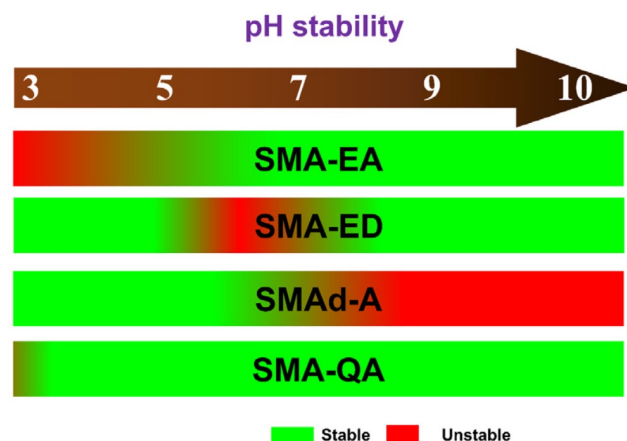

Figure 2. pH stability chart for new SMA polymers [3].
- To solubilize membrane proteins from the native lipid bilayer, the polymer can be added directly to a preparation of isolated membranes that have been resuspended in buffer to a final concentration of 1% – 3%. The polymer can be added as a powder or a stock solution of SMA in a buffer (see Fig. 2 for pH stability of new SMA polymers; the optimal pH in each case may be slightly different).
- Polymer stock solutions are prepared as 10 mg/ml in buffer (for pH choice, see Fig. 2).